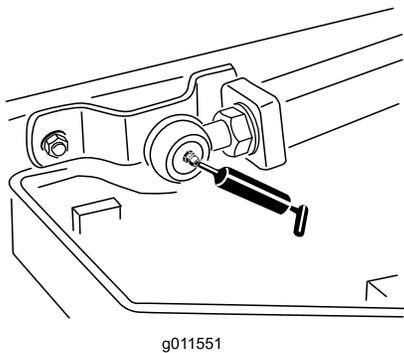

Figure 48
- 2 lift-arm-ball joints (Figure 48)